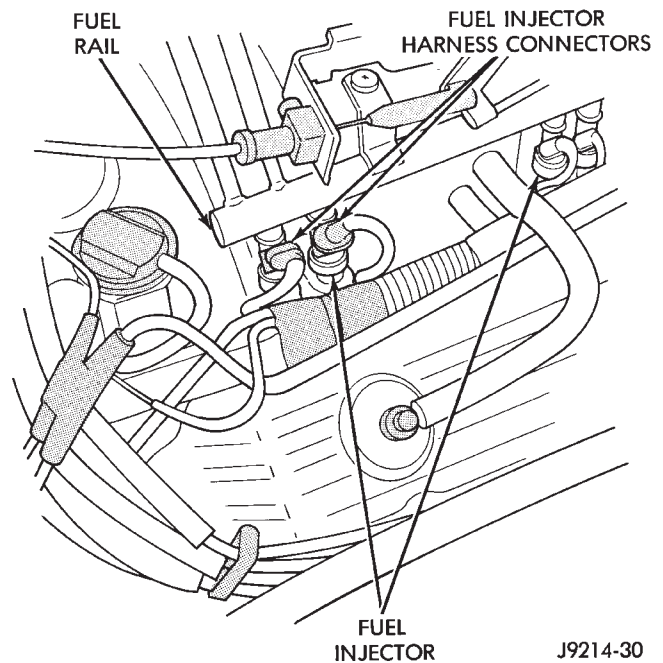

Fig. 9 Fuel Injector Connectors
- (6) Disconnect electrical connectors at all fuel injectors (Fig. 9). The factory fuel injection wiring harness is numerically tagged (INJ 1, INJ 2, etc.) for injector position identification.